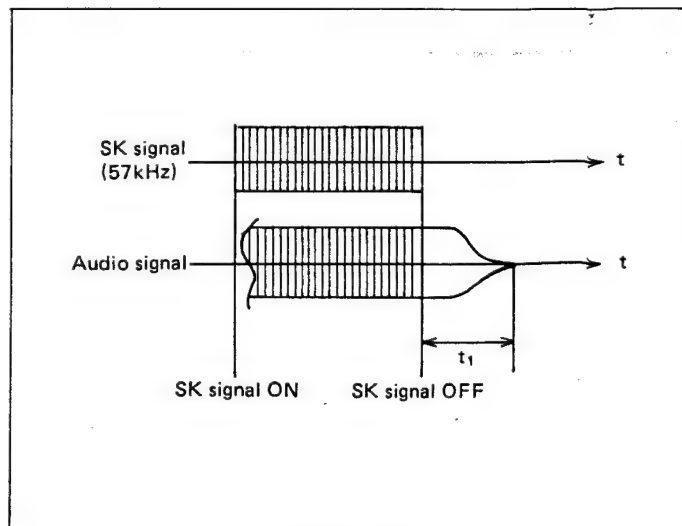

Figure 13-2
Then, the V.C.O. stops to operate so that the audio signal becomes alive whether pin ⑨ is opened or grounded. The electrolytic capacitor C201 in connection with pin ⑨ is for the purpose to decide the muting time constant (t_1) — just when the SK signal turns "off" (see Fig. 13-2). The output of pin ⑦ becomes "Low" level when given SK signal and "High" level when not given SK signal, and it also becomes "High" level when the V.C.O. ceases to operate. Pin ⑤ is the output pin where the BK and DK signals come out.